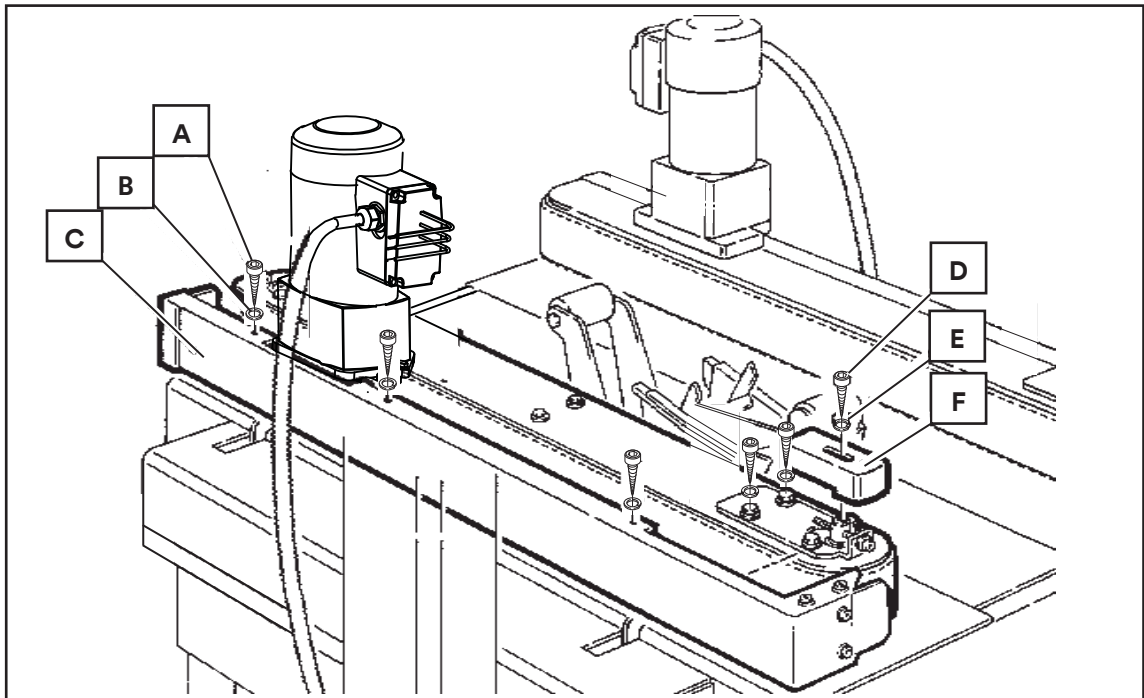

Figure 13-1 Box Drive Belt (Left Side View – Infeed End) (Guarding removed for illustration)
2. Remove and retain the five (5) screws (A), five (5) washers (B) and side cover (C) - **See Figure 13-1.**
3. Remove and retain the screw (D), washer (E) and belt tensioner cover (F).
8. Reverse procedures in Steps 1-3 (**Figure 13-1**) to reassemble the drive belt assembly.